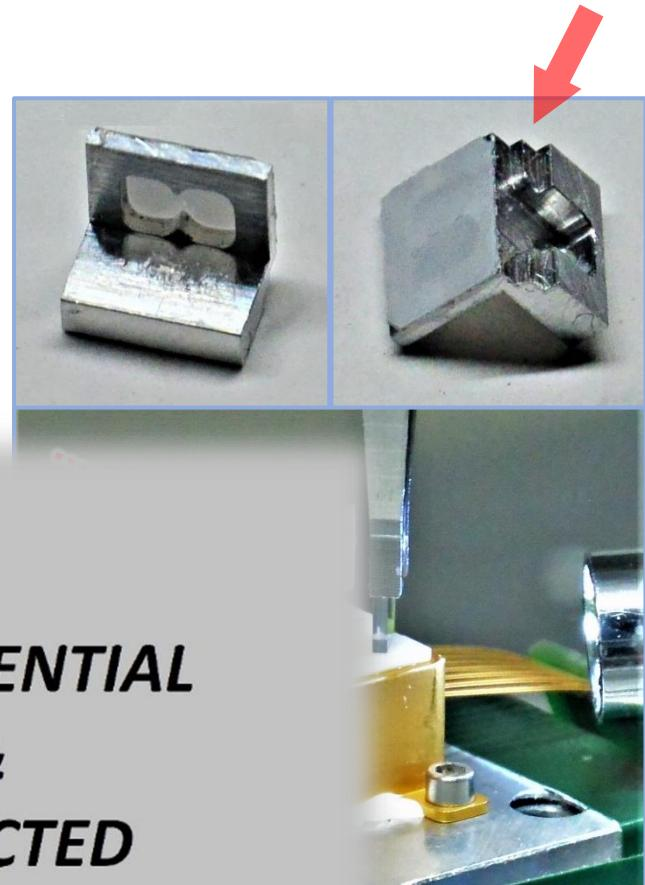

Figure 44 - Dichroic Mirror Alignment Fixture
- 10.4.4.1 Set up the dichroic mirror alignment fixture on the edge of the platform as seen in Figure 44. The fixture includes a lip on the side which rests on the edge of the platform.